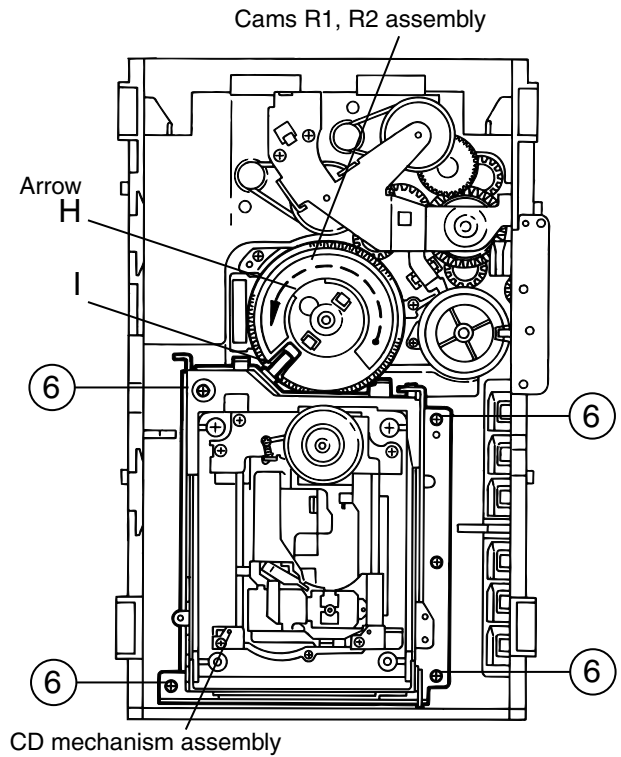

Fig.10
## ■ Removing the DVD mechanism assembly(See Fig.10)
1. While turning the cams R1 and R2 assembly in the arrow direction "H" , align the shaft "I" of the DVD mechanism assembly to the position shown in Fig.10.